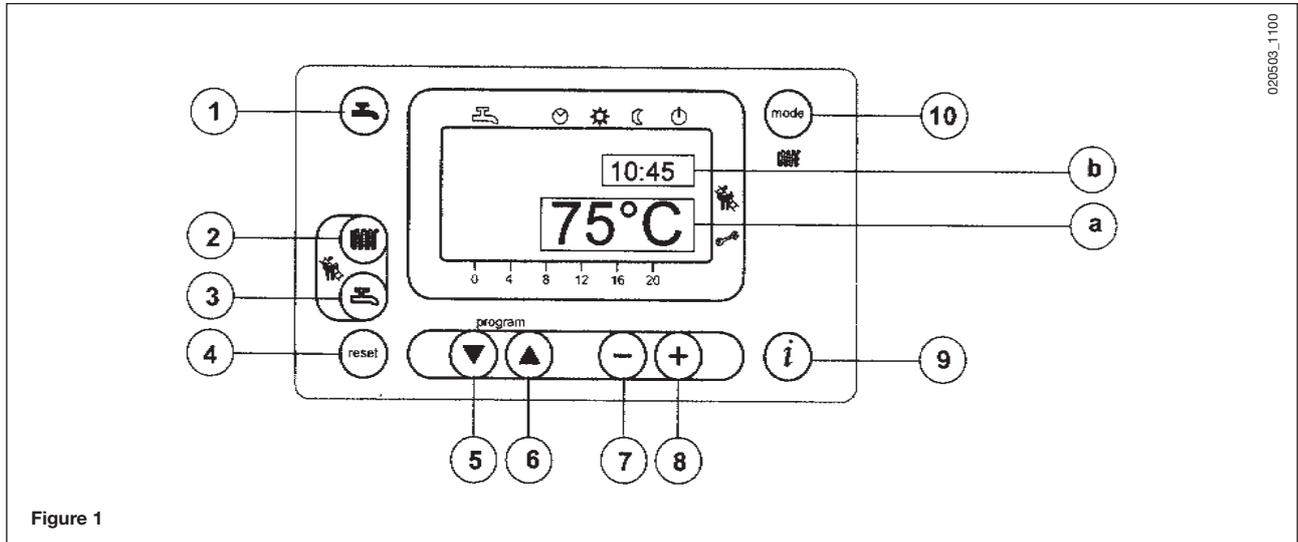

Figure 1
- Press the 🏠 key (2-figure 1) to set the central heating water temperature;
- press either of the 🚿 (mode) keys (1 or 10 - figure 1) to save and return to the main menu.
**NOTE** – With the outdoor sensor probe connected, the 🏠 key (2 - figure 1) can be used to shift the central heating curve. Press the - + keys to decrease or increase the room temperature in the premises to be heated.
- Press the 🚿 key (3-figure 1) to set the maximum domestic hot water temperature;
The fault warnings appear on the main display (figure 1 a) together with the symbol (Figure 4).